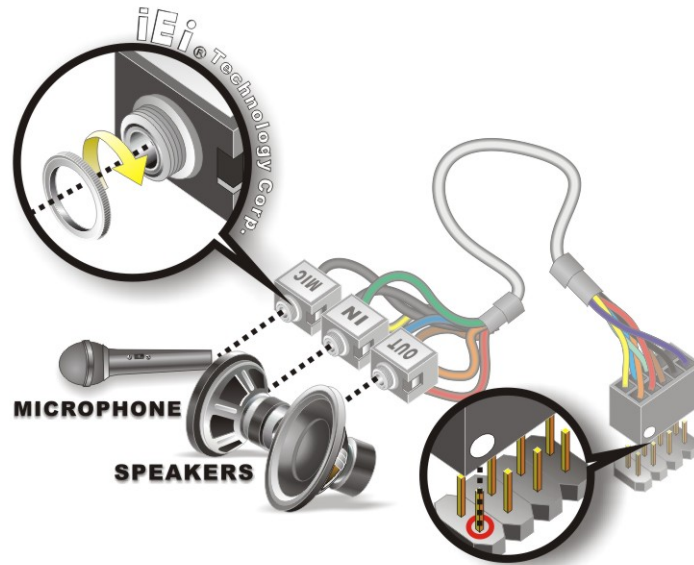

Figure 5-11: Audio Kit Cable Connection
Step 2: Align pin 1. Align pin 1 on the on-board connector with pin 1 on the audio kit connector. Pin 1 on the audio kit connector is indicated with a white dot. See **Figure 5-11**.